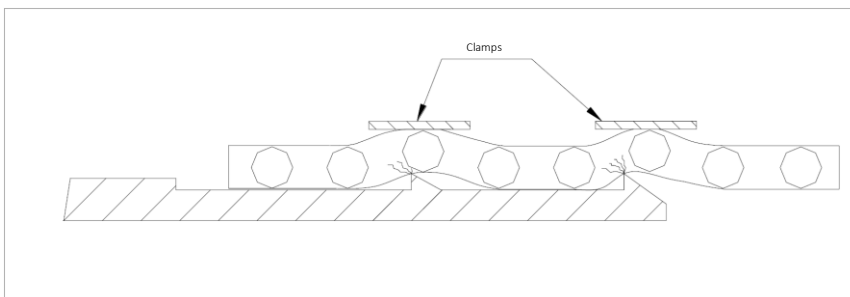

Figure 8
- Incorrectly positioned clamps: situations like this or similar may damage the hose (Figure 8).